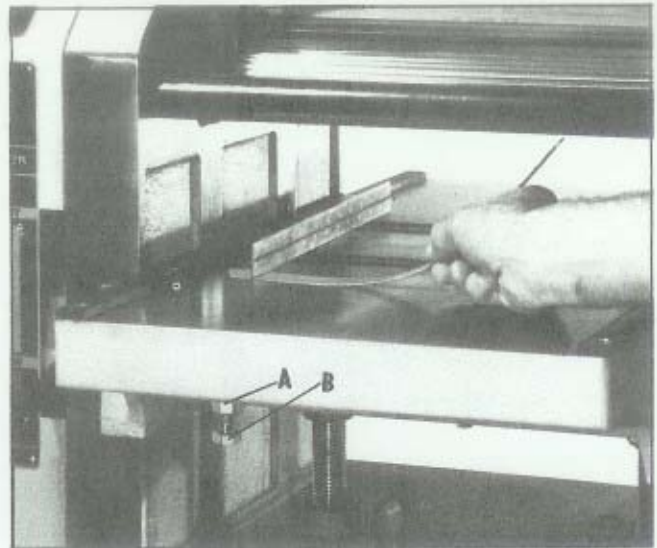

Fig. 18.
2. Lay a straight edge across both rolls and with a feeler gage, as shown in Fig. 18, check both the right and left sides of infeed and outfeed table to make sure both rolls are at an equal height and parallel to the bed.
3. If an adjustment is necessary, loosen nut (A) Fig. 18, underneath end of table roll that is to be adjusted and turn adjusting screw (B) until correct height of the table roll is obtained. Then tighten nut (A).